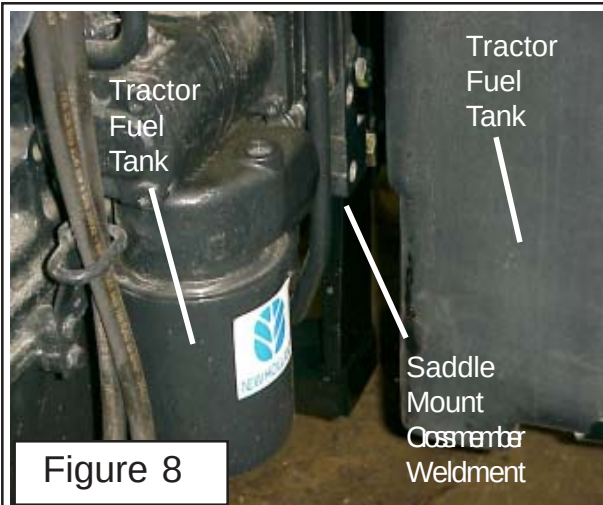
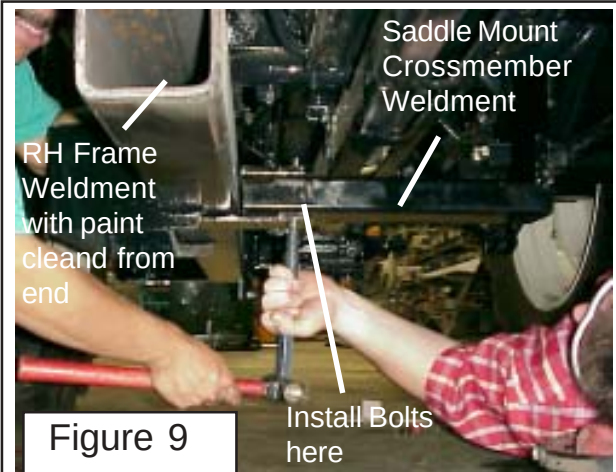

Figure 8
Figure 9
7. Install LH Saddle Mount Crossmember. The saddle mount crossmember bolts to the LH side of tractor housing. See the three bolt holes on the LH side to the rear from the Filter (See Figure 8). The Saddle Mount will be bolted to the RH frame rail underneath the tractor as well as to the tractor on the LH side. Use the three bolts P/N 02971342 (M20-P2.5 X 45 mm PL GR10.9) . These bolts can be difficult to get to because they are behind the fuel tank, only snug these bolts, do not tighten them yet. There are two bolts P/N 02982775 (Hex Head 1/2"-13NC X 3-3/4" PL GR8) that will bolt the saddle mount crossmember to the RH Frame Rail (See Figure 9)
8. Connect Crossmember to RH Frame Rail. The saddle mount crossmember bolts to the RH Frame Rail. There are two bolts P/N 02982775 (Hex Head 1/2"-13NC X 3-3/4" PL GR8) four special hardened flat washers P/N 00756935 (1/2" non-plated Flatwasher) and two locknuts P/N 0000180 (1/2" toplock nut) that will bolt the saddle mount crossmember to the RH Frame Rail (See Figure 9). The two holes may need to be aligned in order to install the two bolts, this can be done with a large punch as shown (See Figure 9) **IMPORTANT:** Install the two bolts with the bolt heads on the bottom and the nuts on top. Use a flatwasher on top and bottom is a must, one flatwasher at the head of the bolt and one at the nut. After installing the bolts snug them only do not tighten them. Now is a good time to clean the paint off of the square tube end of the frame rail, this is so that it can be welded to the front mount weldment later (See Figure 9 & 10)